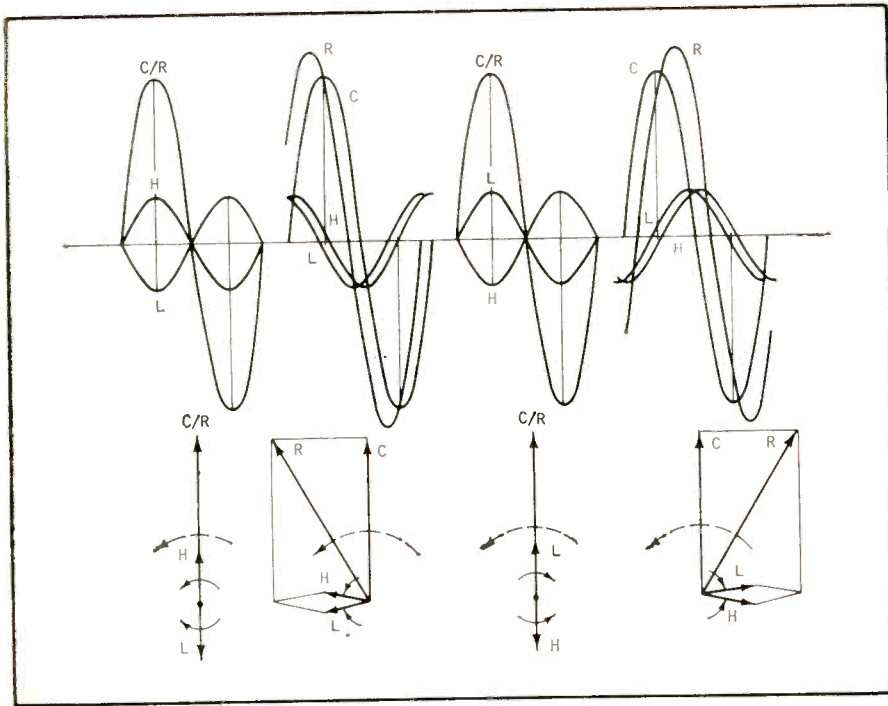
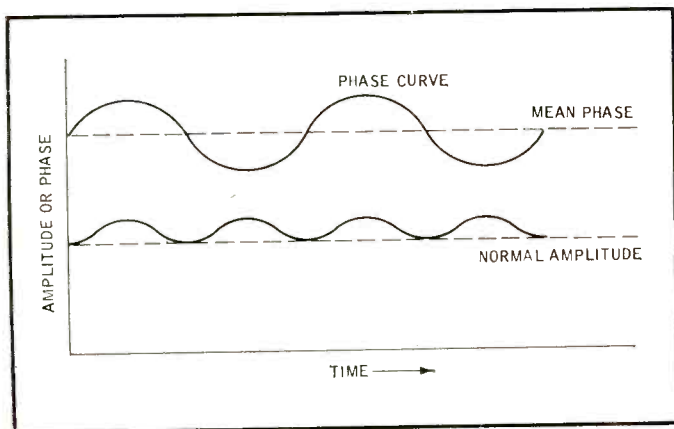

Fig. 8. Changing the phase relation of the sidebands (from Fig. 7) results in predominantly phase modulation, but amplitude varies as well, as double frequency.
Fig. 9. Phase and amplitude variation achieved by carrier and sidebands of Fig. 8.
Fig. 10. Vector diagrams for FM, including second-order sidebands: (A) basic, with only first order (composite of diagrams of Fig. 8); (B) including second order, with intermediate vectors (OG, OH) introduced to investigate amplitude linearity when OD, OE and OF are made equal; (C) with alternative intermediate vectors (OK, OL) to investigate amplitude linearity when phase linearity is introduced by making $\theta = 2(\frac{\phi}{2})$.
same way, by shifting the phase of the sidebands, so they shift phase, rather than amplitude of the resultant vector (Fig. 8). But as soon as more than a little phase shift is produced in this way, amplitude fluctuates as well, at twice the frequency: amplitude is a minimum each time the signal passes through its zero and a maximum at each maximum phase shift (Fig. 9).